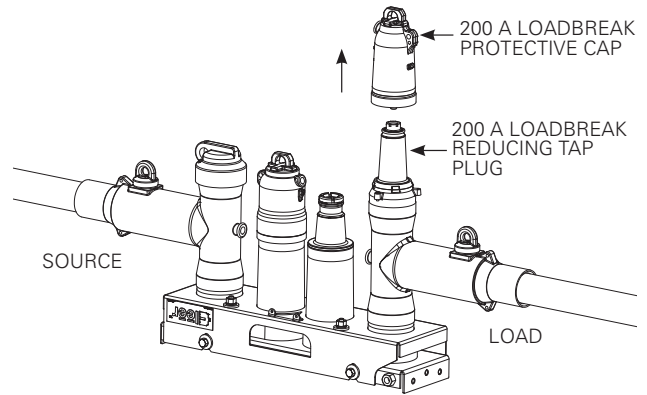

Figure 4. Remove 200 A loadbreak protective cap
- Using a clampstick, remove 200 A loadbreak protective cap from 200 A loadbreak reducing tap plug. See **Figure 4**.